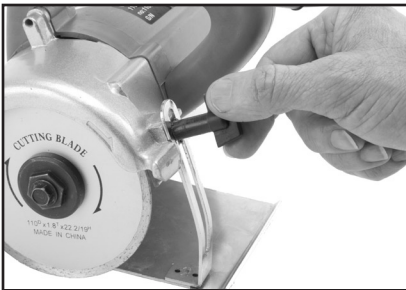

Figure 6. Adjusting the cutting depth.
5. To adjust the cut depth, unplug the tool, then loosen the wing bolt on the base adjustment bracket and move the base to adjust the depth (**Figure 6**).